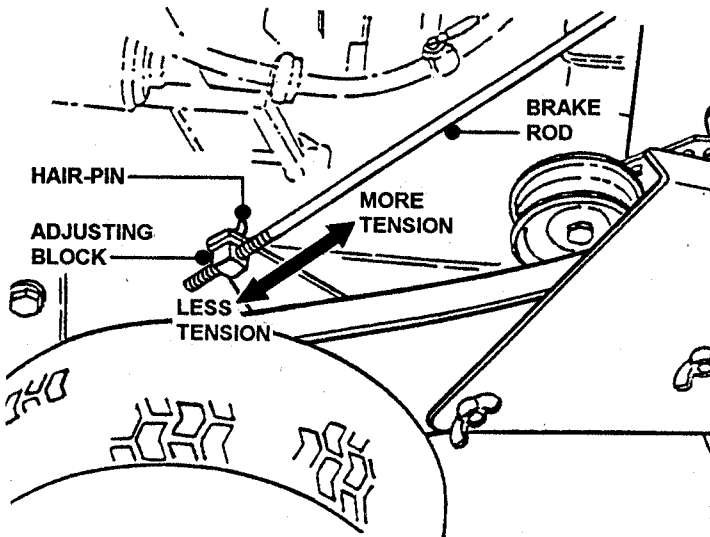

FIGURE 24
4. Pull adjusting block from brake arm and rotate counter-clockwise for more tension or clockwise for less tension. See Figure 24.